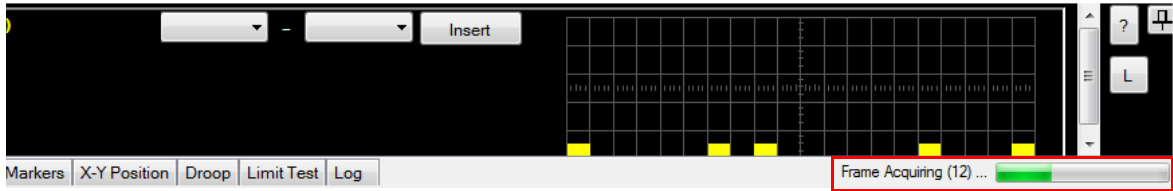

Figure 2-90 Multipulse status on the multi-purpose pane
- 4 The multipulse status is displayed on the multi-purpose pane as shown in Figure 2-90.